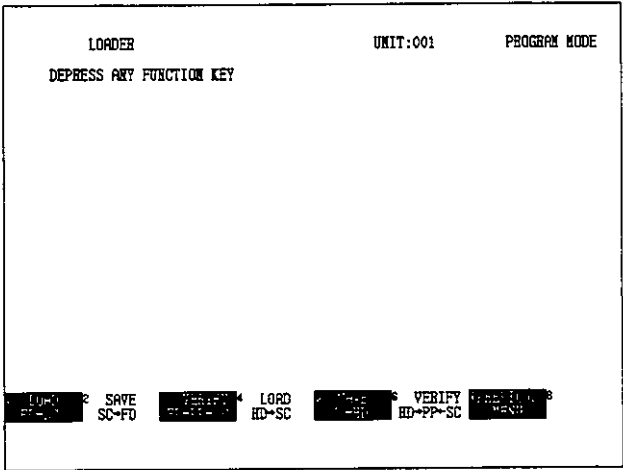

Figure 6.81
- 4) Select Loader. The screen shown in Figure 6.81 will be displayed.